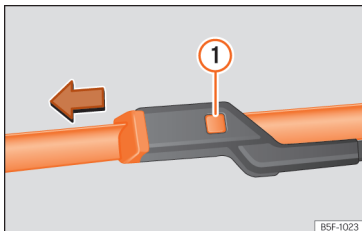

Fig. 85 Changing the windscreen wiper blades
- Press and hold release button »» Fig. 85 ❶ and pull gently on the wiper blade in the direction of the arrow.